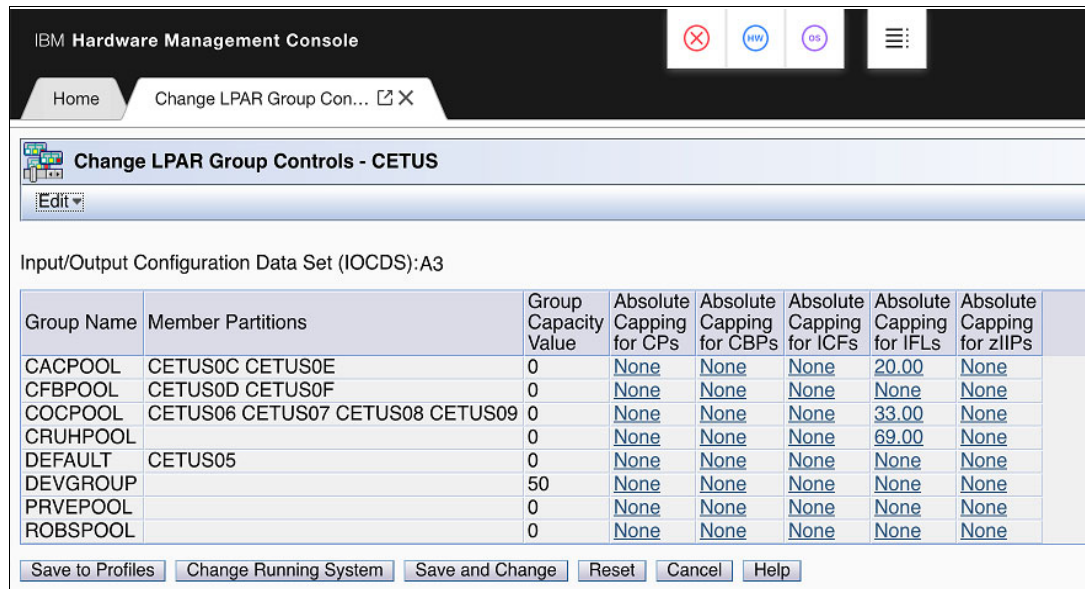

Figure 10-17 Change LPAR Group Controls: Group absolute capping
- ▶ Use Change LPAR Group Controls (as with windows that are used for software group-defined capacity), as shown in Figure 10-17 (snapshot on a z15).